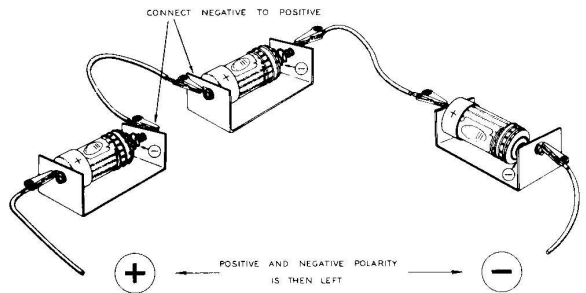
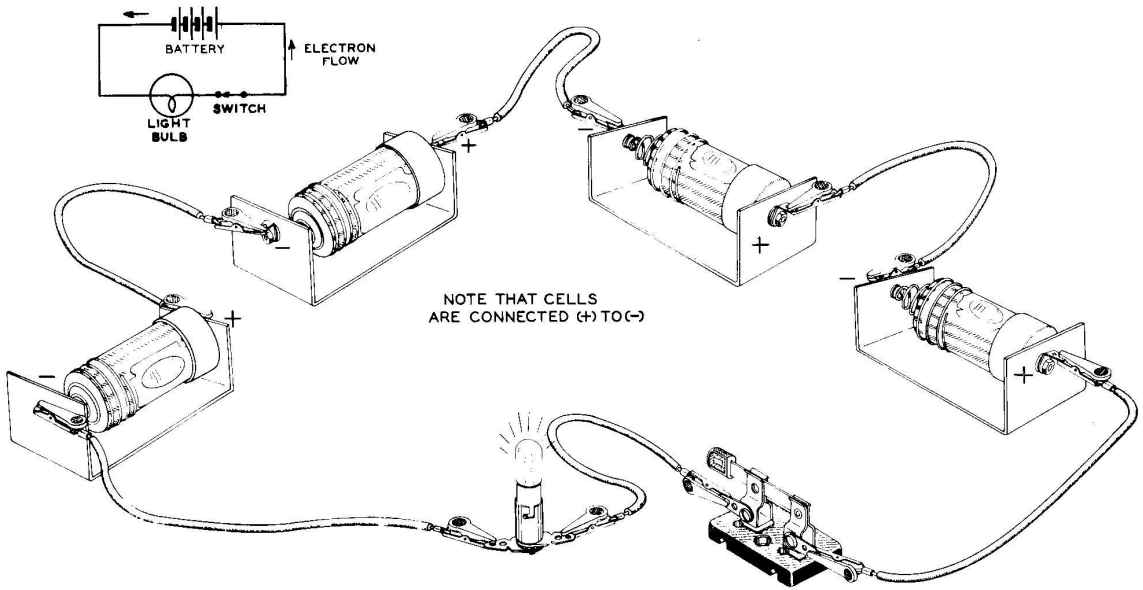
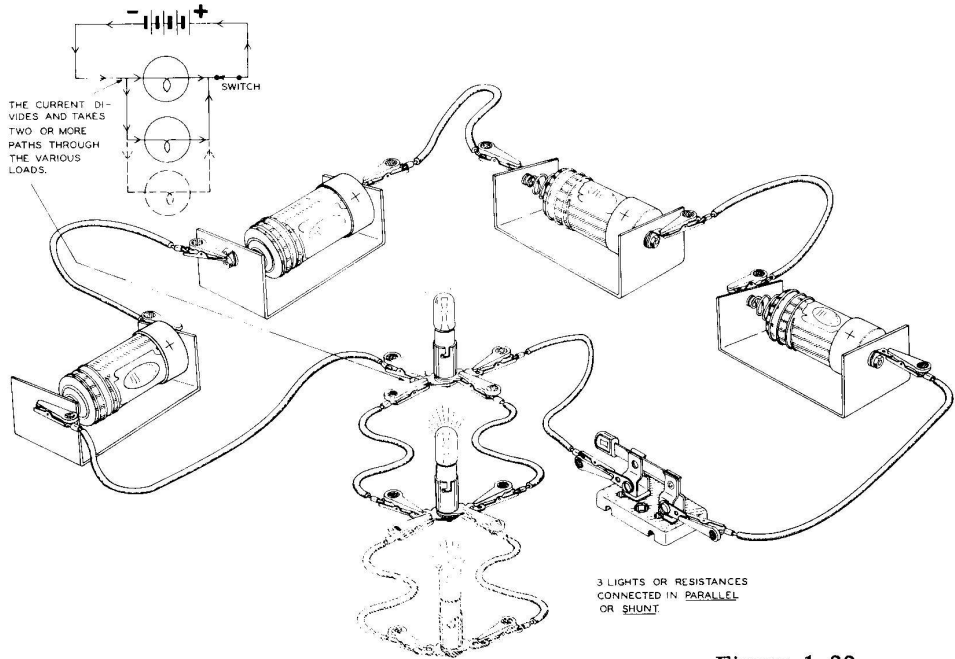

Figure 1-17
Figure 1-18
Figure 1-22
When you connected Figure 1-6 and caused the lamp to glow, you probably wondered why it did not glow very brightly. The reason is that not enough electrons were flowing through the filament to heat it to proper brilliance. To force more electrons through the filament, the electrical pressure must be increased by using more cells connected together in a string, as in Figure 1-17, so that the electrical pressure of each cell will aid the next one. Actually, six volts of electrical pressure is needed to cause the correct current of .15 amperes to flow through the filament of a #47 lamp. Since each flashlight cell develops approximately 1.5 volts of electrical pressure, it would take four flashlight cells connected in series to make 6 volts, since  $4 \times 1.5 \text{ volts} = 6 \text{ volts}$ . Connect the other three dry cells in series to form a battery of cells, or simply a battery, as shown in Figure 1-18.
In the parallel or "shunt" circuit, the current that comes from the electrical source divides and takes two or more paths through the various loads before it returns to the same electrical source. In Figure 1-22, we see that two lamps have been connected so that the current from the electrical source divides and flows through each lamp. With connecting wires, socket, and lamp revise your circuit of Figure 1-18 to correspond with Figure 1-22.
30. Draw a schematic diagram of a direct current parallel circuit using four cells, two light bulbs and connecting wires. (Check drawing with Figure 1-22, Page 13.)
29. What three things go into making a direct current series circuit? Answer: (1) A source of power that will deliver a continuous flow of current, (2) a load, and (3) connecting wires such that the current flows through the circuit from one place to the next place in succession.
33. What three things go into making a direct current parallel circuit? Answer: (1) A direct current power source, (2) two or more loads, and (3) connecting wires such that the current takes two or more paths through loads before it returns to the same electrical source.